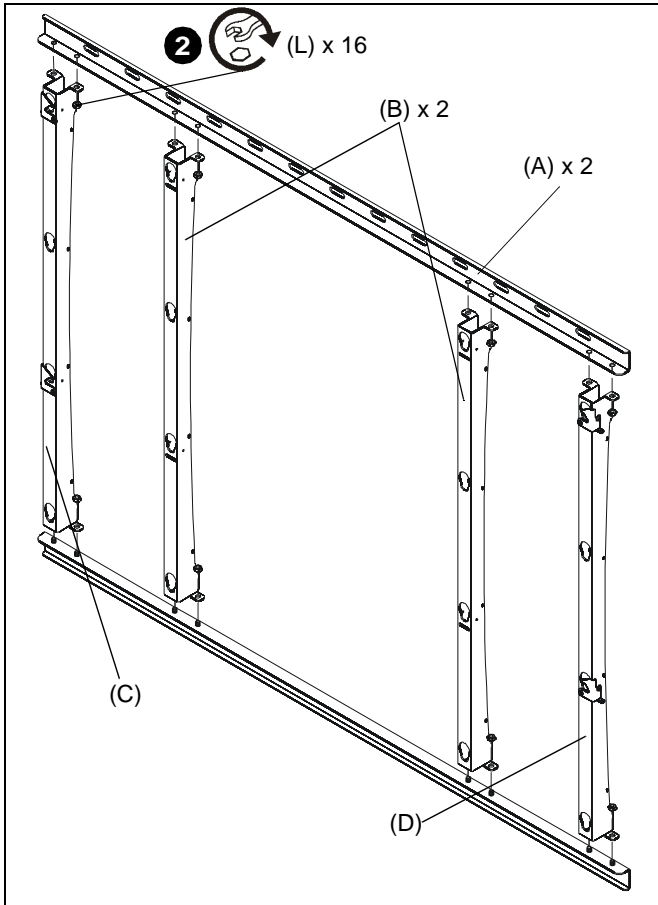

Figure 1
1. Arrange four vertical brackets (B-D) with two horizontal brackets (A) making sure the right vertical bracket (C) is on the far right and the left vertical bracket (D) is on the far left. (See Figure 1)
2. Use 16 5/16-18" lock nuts (L) to attach vertical brackets to horizontal brackets. (See Figure 1)